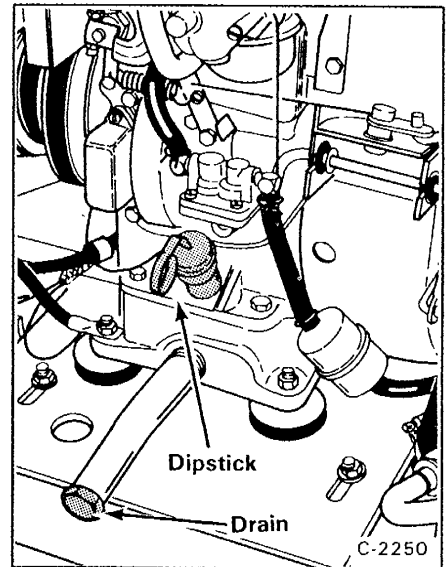
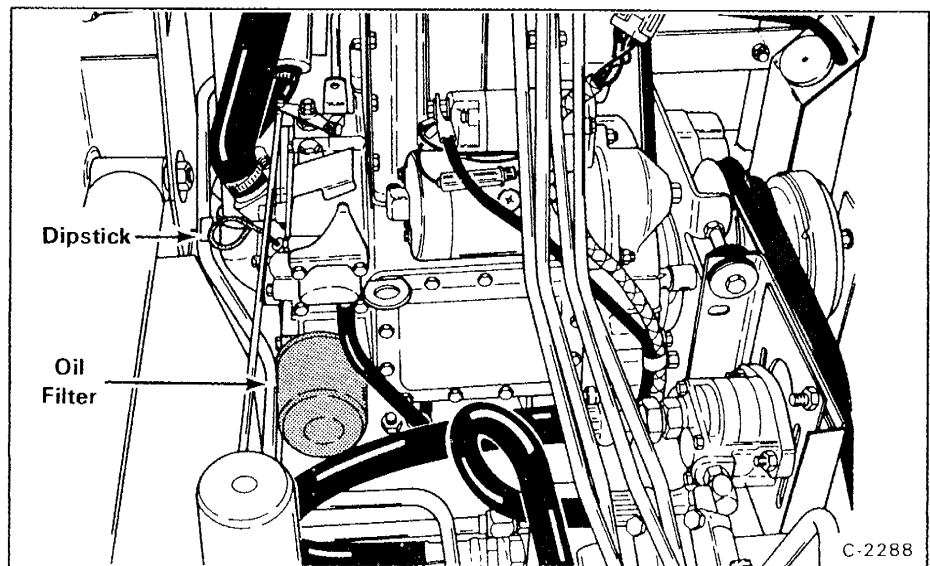
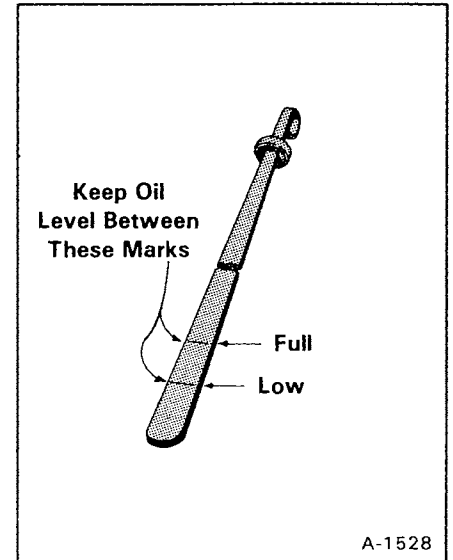
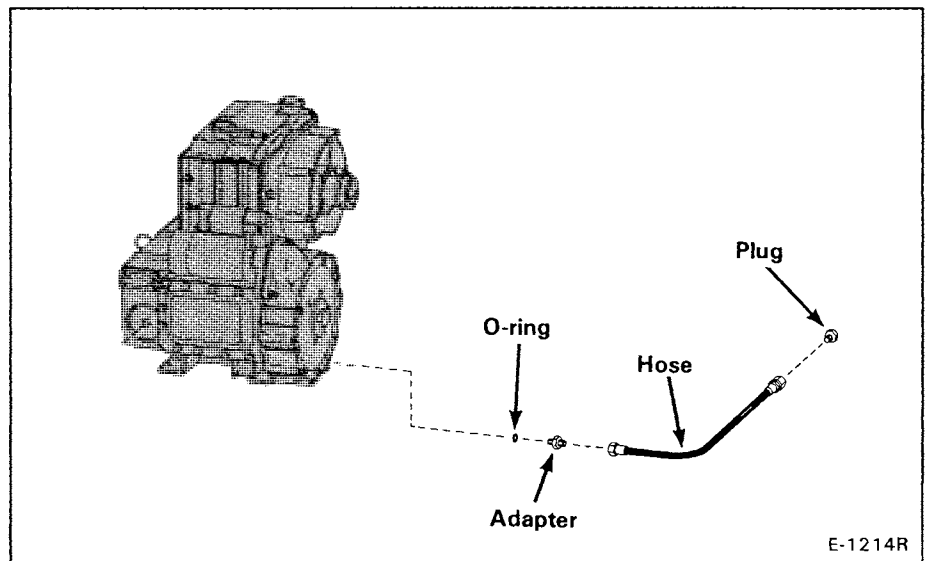

Fig. 1-7 Engine Dipstick Location (310)
Fig. 1-8 Engine Oil Filter Location (313)
Fig. 1-9 Engine Dipstick
Fig. 1-9a Engine Oil Drain Tubeline
Check the oil level every 4 hours for the first 50 hours of operation and then check the oil level daily. To check the oil, remove the dipstick (Fig. 1-7) and (Fig. 1-8). Clean the oil from the dipstick and put the dipstick back into the hole. Remove the dipstick again and look for the oil level. The oil level must be between the "FULL" and "LOW" marks on the dipstick (Fig. 1-9).
The 313 oil filter (Fig. 1-8) needs replacement each time the engine oil is replaced (every 50 hours of operation). The oil filter is located in the front of the engine. It is necessary to remove the front two operator enclosure fastening bolts and tilt it to reach the filter.
- (1) Put the loader on a level surface. Stop the engine.
- (2) Remove the drain plug and let all the oil out of the engine (Fig. 1-7). (On the 313, the oil drain is located under the alternator.)
- (3) Remove the oil filter (313).
- (4) Put oil on the gasket on the new oil filter. Install the oil filter and tighten by hand only (313).
- (5) Install drain plug.
- (6) Put 2 quarts (1,9 liter) of oil in the crankcase on the 310 and put 3.3 quarts (3,1 liter) of oil in the crankcase on the 313.
- (7) Start the engine and check for leaks.
**NOTE:** Check for a leak at the tubeline on the 313 engine. If there is a leak, replace tubeline with a hose and plug (Fig. 1-9a) (See the Parts Book or Microfiche for the correct part numbers).